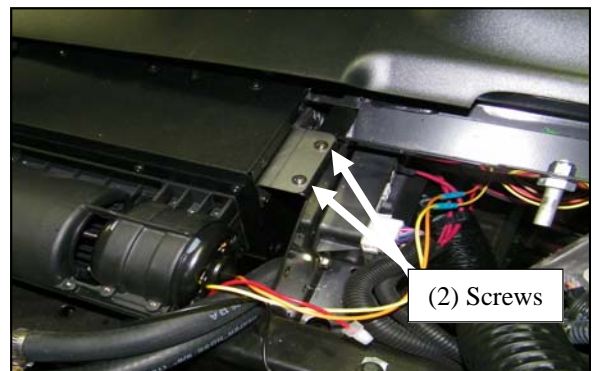

FIGURE 2.3
2.3 Fasten the left bracket to the vehicle frame with the following hardware using the two holes as a guide. See Figure 2.3.